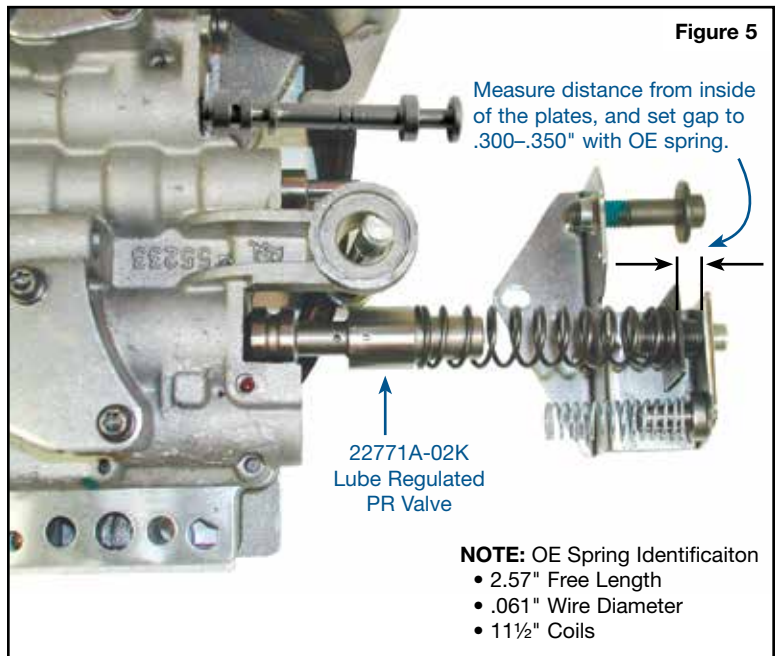

Figure 5
- Adjust pressure regulator adjusting screw so that there is a .300–.350" gap between the inside of the plates (**Figure 5**).